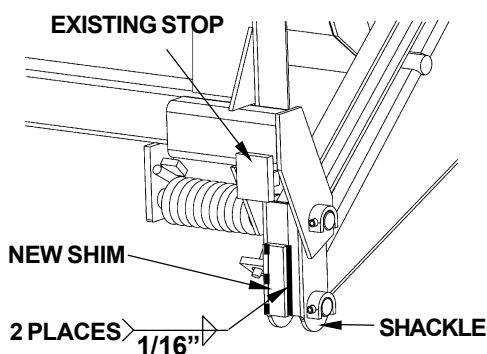

FIG. 3
4. If the platform is level at bed height (**FIG. 2C**) and sags at ground level (**FIG. 2D**), weld 1-1/2" x 3-1/2" shims in 1/16" increments to each lift arm Shackle (roadside and curbside) as shown in **FIG. 3**. Make sure bottom edge of shim is flush with bottom edge of shackle. Each shim raises up the outboard edge of the flipover as shown in **TABLE 1**.